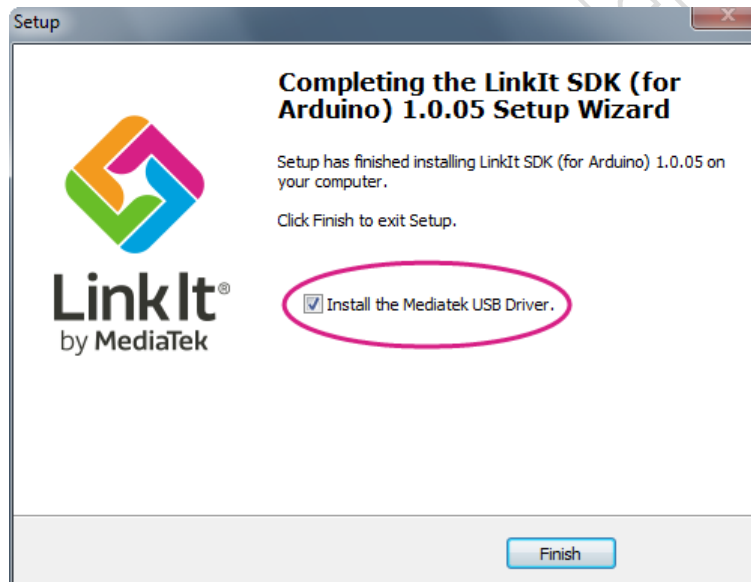

Figure 6 The option to install the MediaTek USB driver should be selected before clicking **Finish**
- 7 The SDK installs and on completion the dialog shown in Figure 6 displays. The first time you install the SDK, ensure that **Install the MediaTek USB Driver** is selected, before clicking **Finish**.